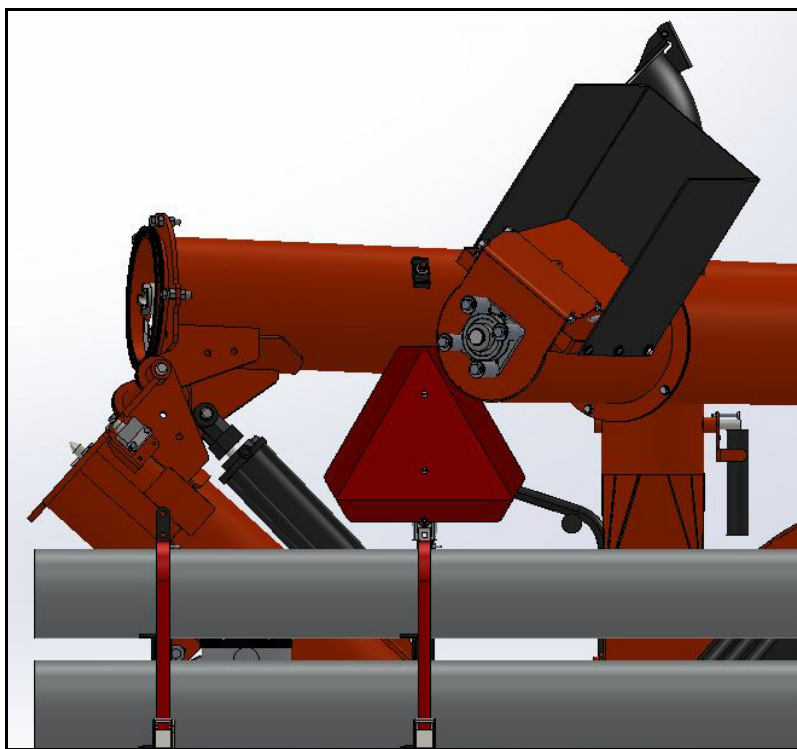

Figure 3.2 Placement of Slow Moving Vehicle Sign
- a. If transporting below 40 mph (65 kph), secure and display the SMV sign in the bracket located on the hose rack (see Figure 3.2).